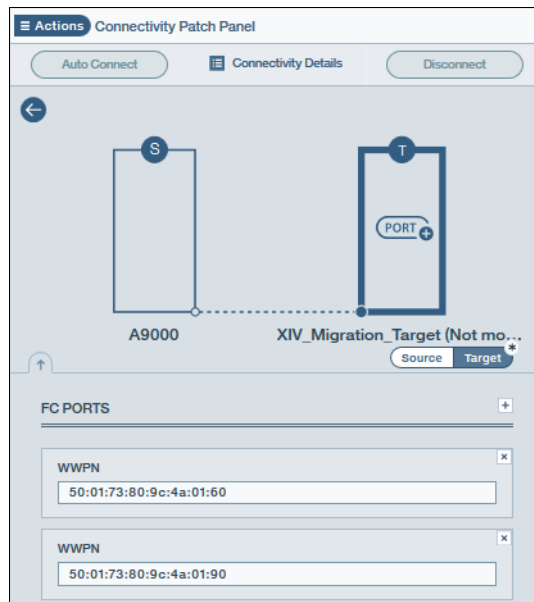

Figure 8-36 Define the FC ports for the target system
- a. Enter the WWPN as listed in Table Table 8-2 on page 193 of the XIV Storage System to define the connection between the two systems, as shown in Figure 8-36.